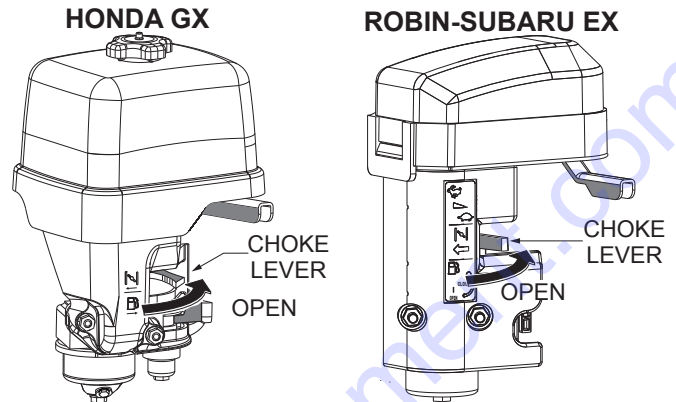

Figure 36. Choke Lever (Open)
- If starting a warm engine, place the choke lever in the **OPEN** position (Figure 36).